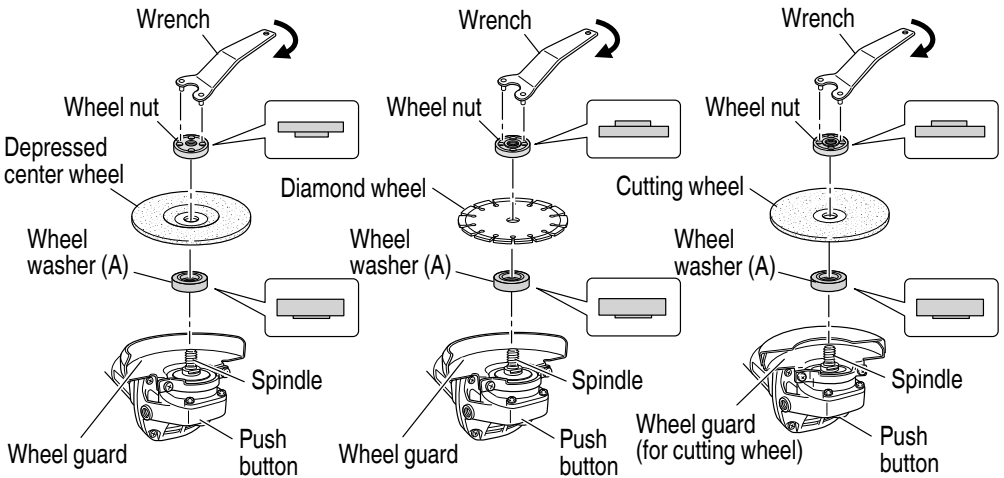

Fig. 8
- (1) Turn the disc grinder upsidedown so that the spindle is facing upward.
- (2) Align the across flats of the wheel washer (A) with the notched part of the spindle, then attach them.
- (3) Fit the protuberance of the depressed center wheel onto the wheel washer (A).
- (4) Screw the wheel nut onto the spindle.
- (5) While pushing the push button with one hand, lock the spindle by turning the depressed center wheel slowly with the other hand.Tighten the wheel nut by using the supplied wrench as shown in **Fig. 8**.